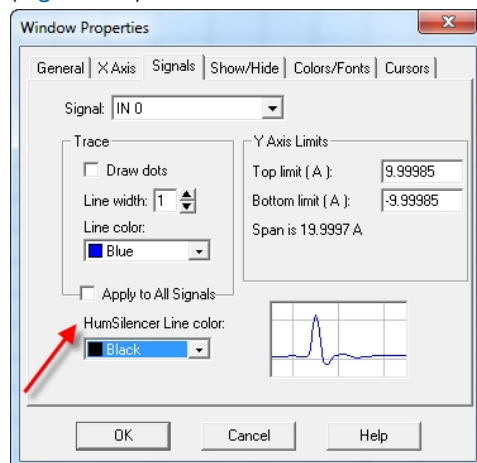

Figure 4-5: HumSilencer line color change options in the View > Windows Properties > Signals tab
- Set the color from on the View > Window Properties > Signals tab in the Scope window (Figure 4-5).